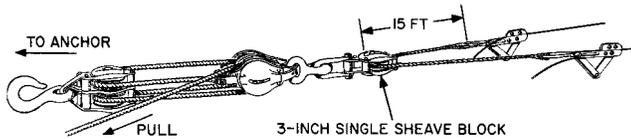

Fig. 7—Pulling Two Open Wires
7.03 Fig. 7 through 11 show systems of rigging or strain equalizing that have been found satisfactory for pulling open wire. Where practicable, use rope that has had the twist removed through usage. In general, twist in new rope can be removed by placing a strain on the rope. If a tendency for twisting occurs between the pulling up blocks and strain equalizing arrangement, hold the blocks in position by means of a bar placed in the hook of the block.
7.04 Where more than 10 wires are to be pulled use a combination of the arrangements shown in Fig. 7 through 11.